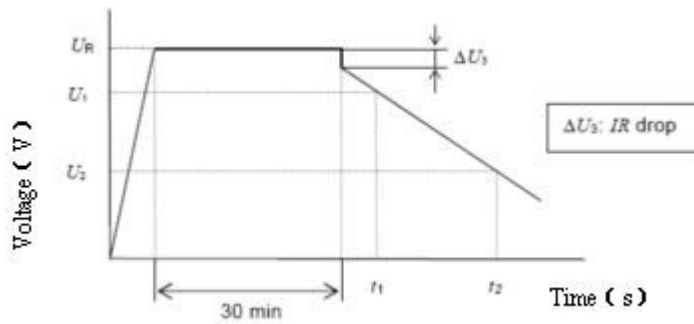

Figure 2 – Voltage characteristic between capacitor terminals
- e) Unless otherwise specified in the individual standards, measure the time t_1 and t_2 where the voltage between capacitor terminals at the time of discharge reduces from U_1 to U_2 as shown in Figure 2, and calculate the capacitance value by the following formula: